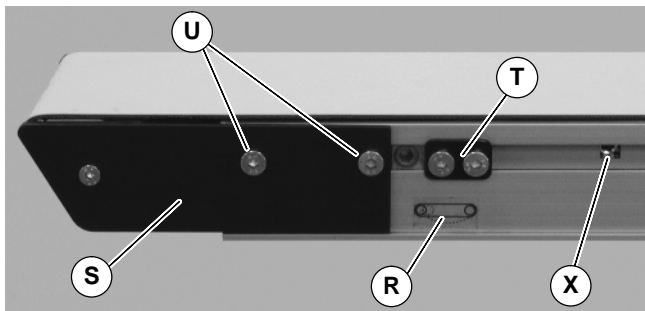

Figure 39
1. On tension end of the conveyor, identified with a  label (R of Figure 39), adjust head plate assembly (S): On both sides of conveyor, loosen fastening screws (U) and rotate pinion gear (X) to adjust head plate assembly.
2. Adjust head plate assembly so the edge of the axle support plate (BS of Figure 40) is separated from the end of the conveyor (BT) by 29 mm. Tighten fastening screws (U of Figure 39) on both sides of conveyor to 7 Nm.
3. If equipped with cam tracking assemblies (T of Figure 39) position against head plates and adjust belt tracking. Refer to “Conveyor Belt Tracking”, page 16.